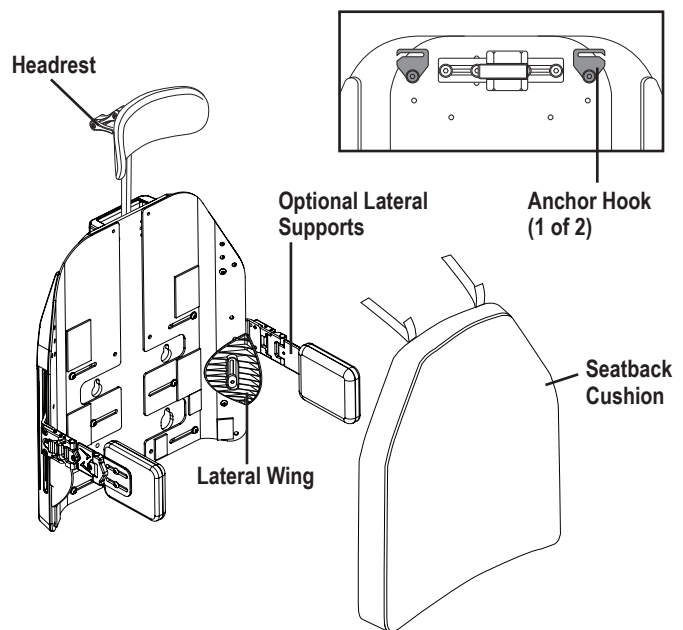

Figure 13. TRU-Comfort 4 Components
The TRU-Comfort cushion is a unique seatback that is available for user comfort and positioning needs. **Figure 13** provides information on the removable and adjustable TRU-Comfort components. Use these diagrams to familiarize yourself with the function and location of each component before using the TRU-Comfort cushion. **See figures 13 and 14** to identify which seatback is on your power chair.
1. Position the lumbar and thoracic support(s) as needed for user comfort and positioning flat side down and push onto the seatback. Position the lateral supports and lateral wings as needed and attach with hardware. **See figure 13.**
2. Position the seatback cushion so that the reusable hook and loop fastener straps face the seatback. Place the cushion over any lumbar, lateral, and thoracic support(s). Secure the cushion to the seatback by sliding the two (2) long loop fastener straps through the anchor hooks and pressing the two (2) short hook fastener straps against the longer straps. **See figure 13 or 14.**
1. Remove the seatback cushion from the seatback by detaching the reusable hook and loop fastener straps as well as the reusable fasteners that secure the cushion to the seatback, then pulling the cushion toward you. **See figure 13 or 14.**
6. Once the cover is dry, re-cover the seatback cushion, position the seatback cushion to face the reusable fasteners on the seatback. Secure the cushion to the seatback using the reusable fasteners on the seatback as well as the reusable hook and loop fastener straps. **See figure 13 or 14.**